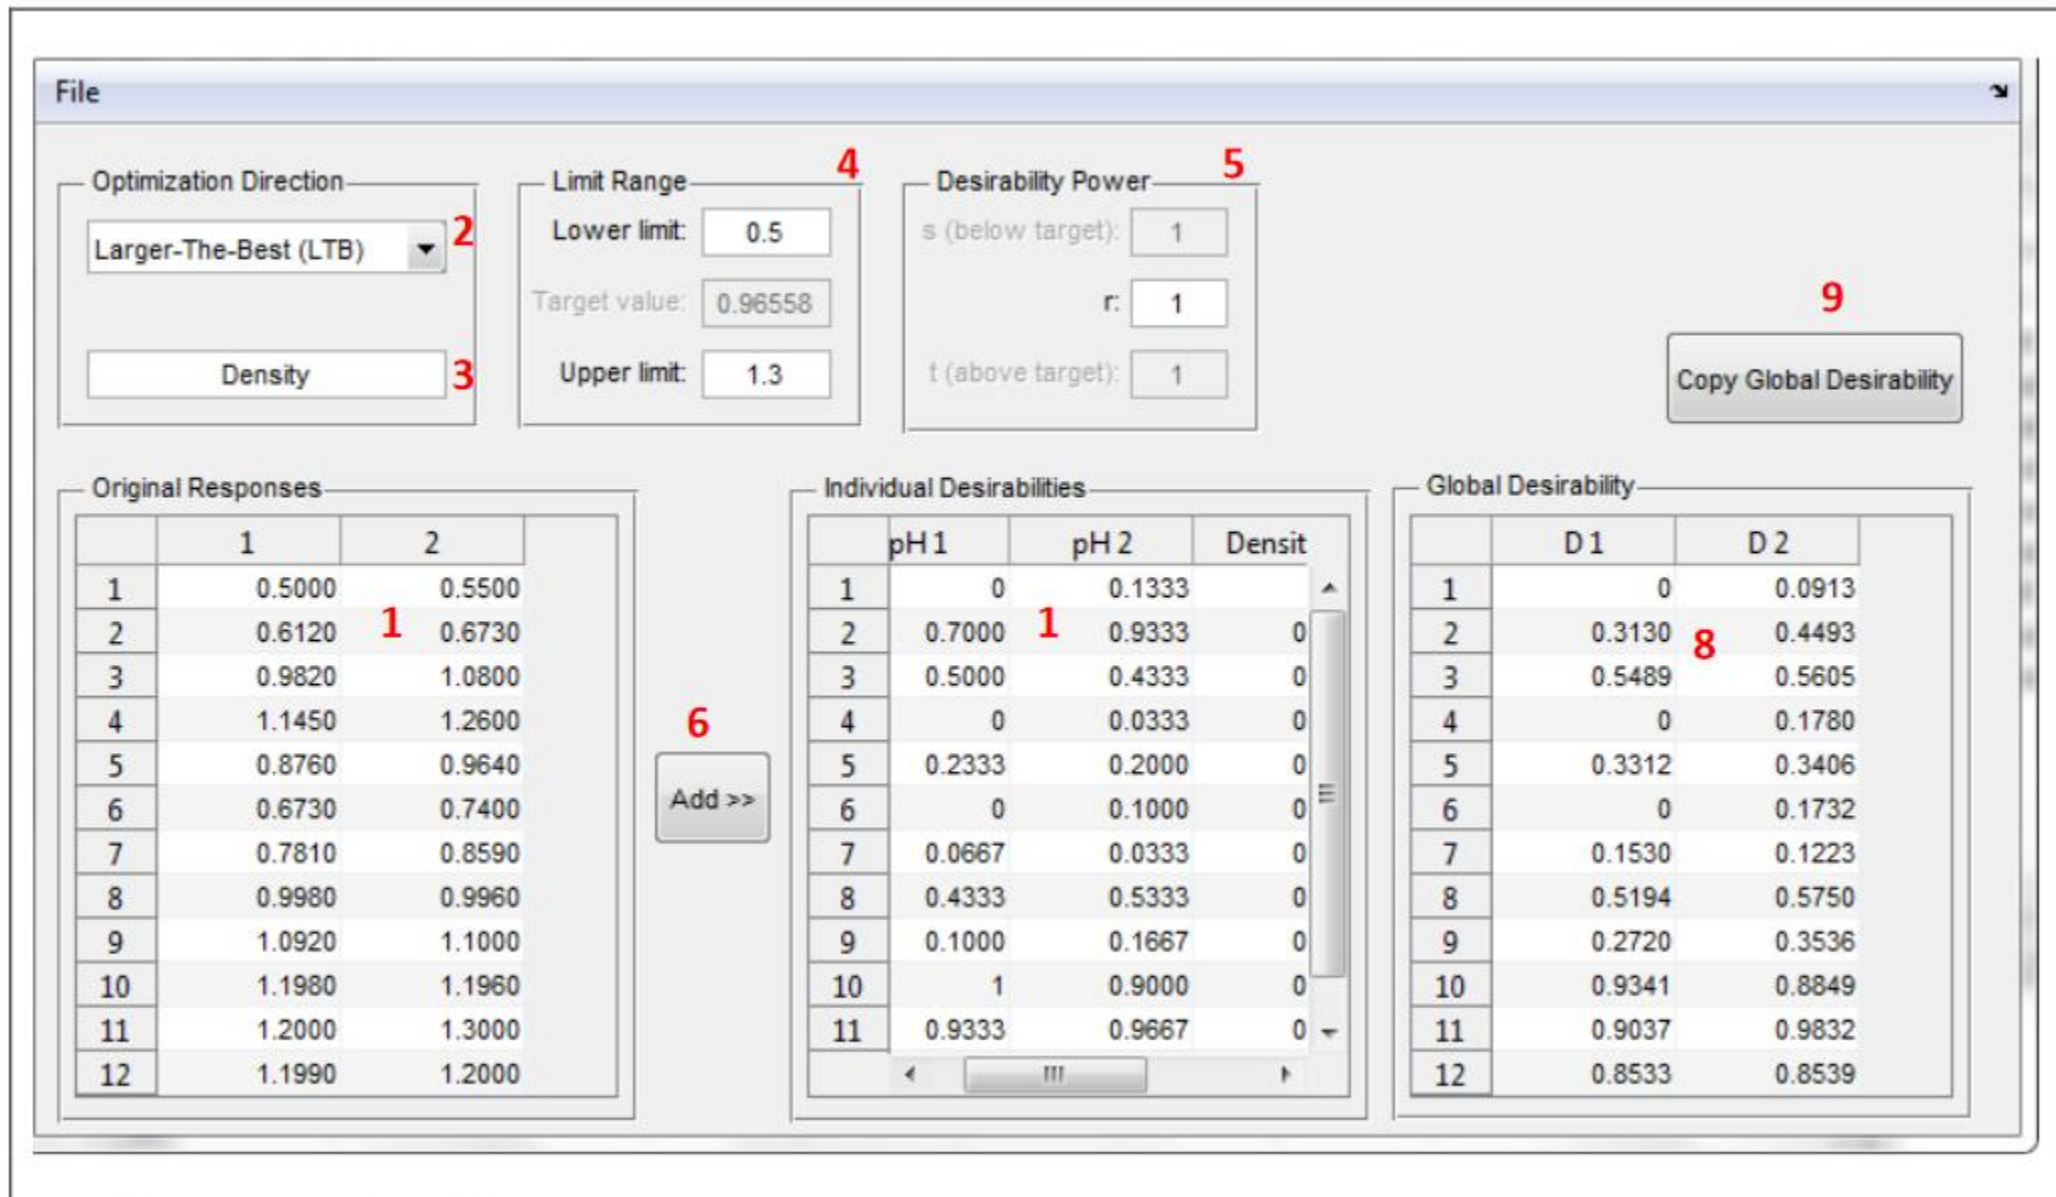

Figure 5. Desirability function
- Desirability functions can be used to combine multiple responses using menu Tools> Desirability Function(Figure 5).
- Insert each response set pasting it from a spreadsheet using menu File> Paste responses. Allocate replications abreast (In example, there are two replications, (1)).